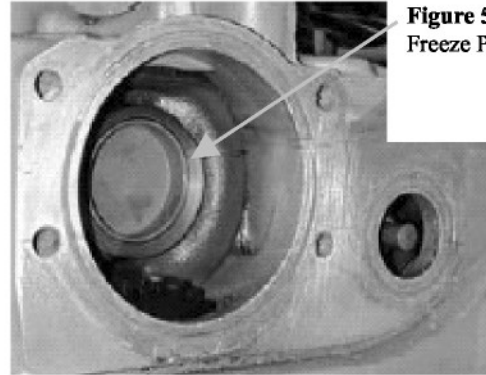

Figure 5 – Align the Freeze Plug to this edge.
5. Then, using a hammer to tap the steel pipe, drive the Freeze Plug into the inner bore making certain that it goes in straight. Drive the Freeze Plug in until the edge of the Freeze Plug is aligned with the edge of the inner bore. See Figure 5.